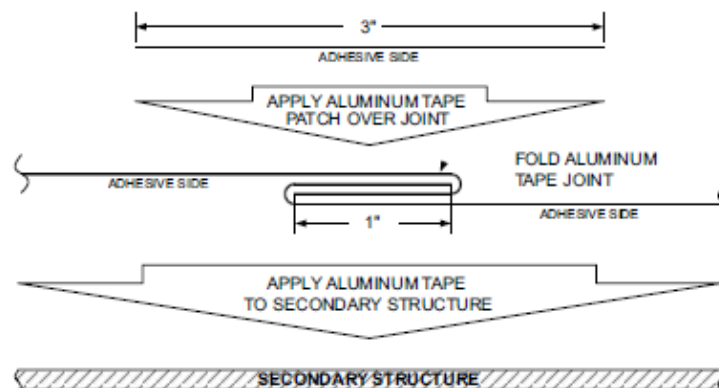

Figure 4-60 Aluminum Tape Joint
7. If two pieces of tape need to be joined end-to-end, they can be joined as illustrated in Figure 4-60.